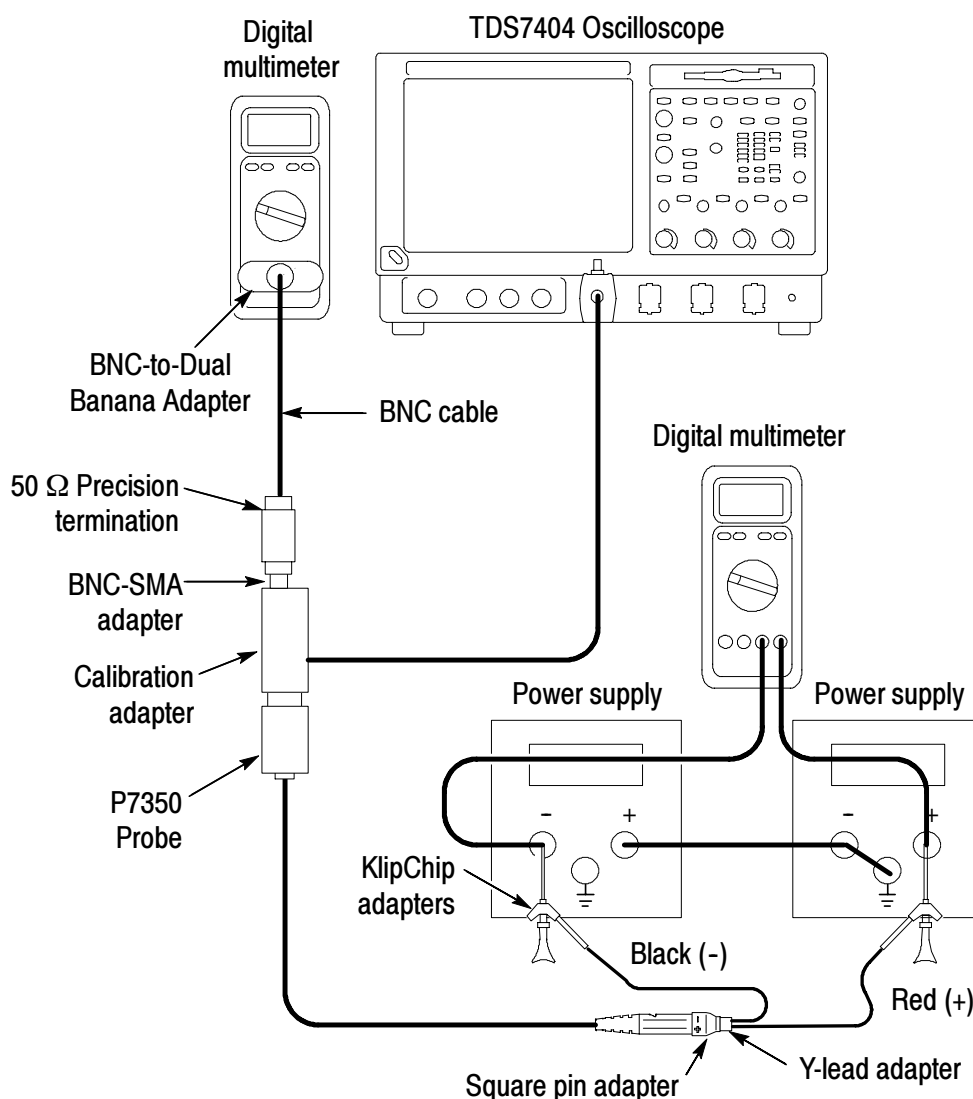

Figure 22: DC Gain Accuracy setup
1. Connect the probe input to the power supplies as shown in Figure 22. Monitor the source voltage with one of the DMMs.